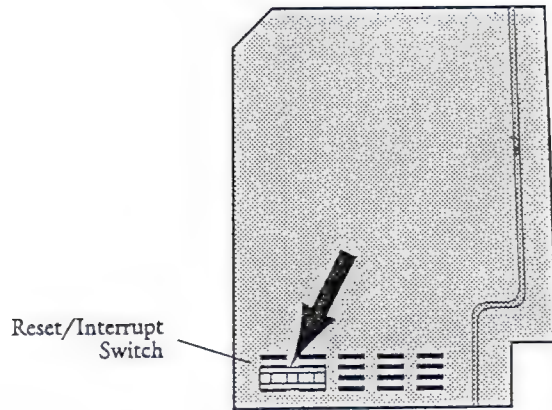

Figure 3 : The reset/interrupt switch
3. Remove the reset/interrupt switch (if installed) from the side of the case by prying it off with a small flat-blade screwdriver (as illustrated in Figure 3).